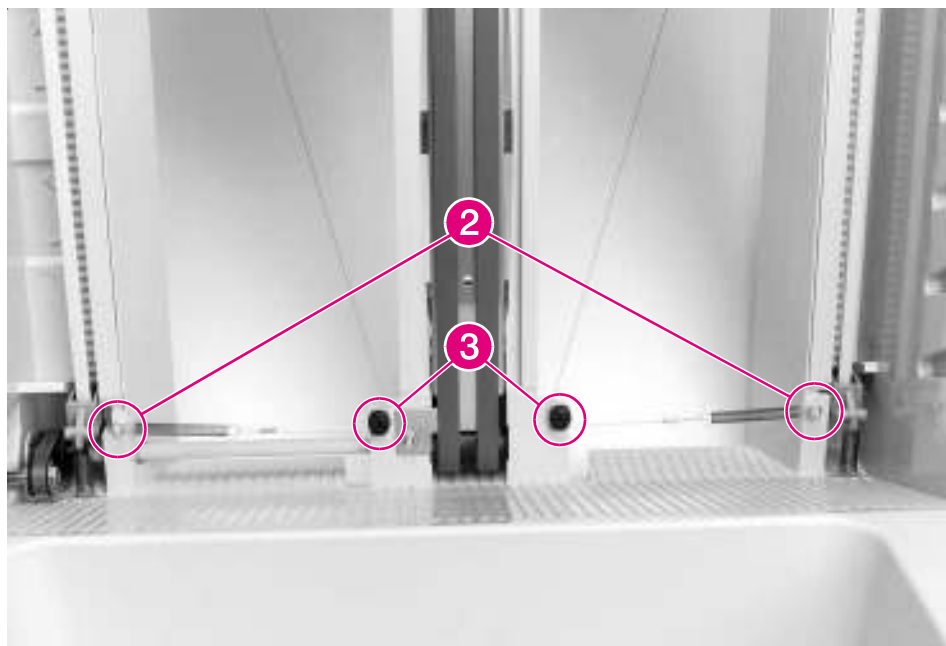

Figure 6-170 8-bin Mailbox Delivery Head Assembly (2 of 4)
- 4 At the lower-left side of the 8-bin Mailbox frame, locate the Tension Springs on the Anticurl Strings, and remove the 2 screws that secure the springs to the frame (Figure 6-170, callout 2).
- 3** Replace the Tension Springs on the Anticurl Strings at the bottom of the frame with the T-10 Torx screws (Figure 6-170, callout 2).
- 4** Snap the Anticurl Strings into the pulleys at the bottom of the frame (Figure 6-170, callout 3).